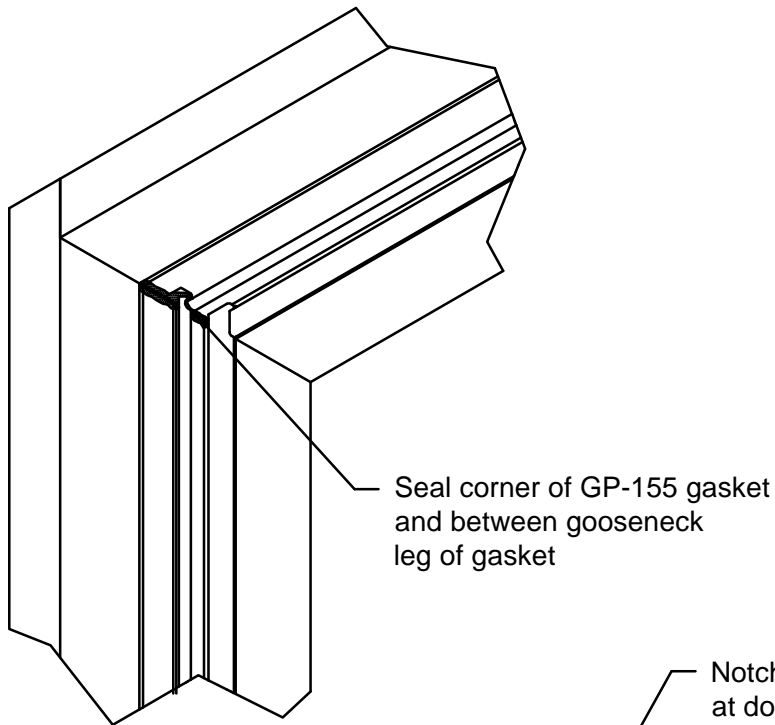

FIGURE 13
4. Joint at door header to jamb at gasket must be sealed per FIGURE 13.
- 6.2. Apply bead of sealant along edge of door jamb at inner face as shown in FIGURE 13, pg. 14. Sealant applied to vertical door stops only.